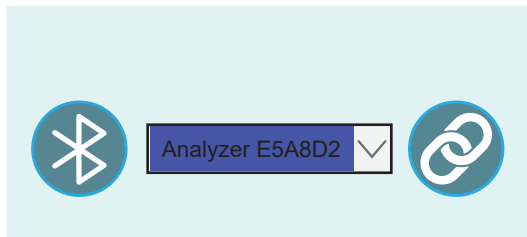

Figure 28. Drop Down Menu
2. Tap the correct analyzer from the drop-down menu and tap the connect button. See Figure 28.